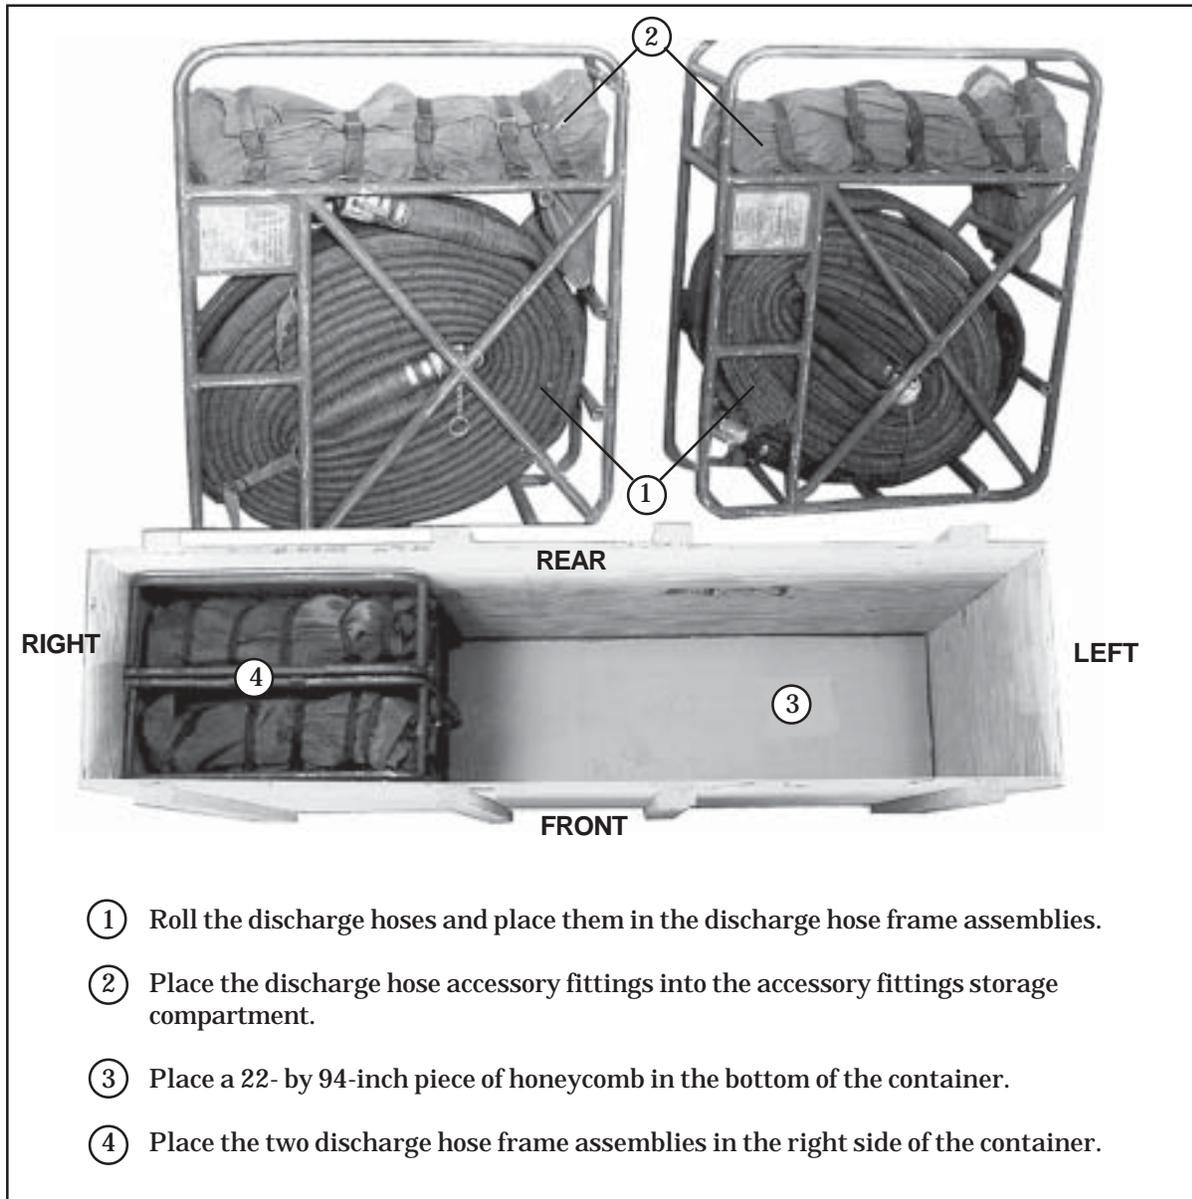

Figure 1-7. Discharge Hose Frame Assemblies Prepared and Stowed
- a. **PREPARING DISCHARGE HOSE FRAME ASSEMBLY.** Prepare the discharge hose frame assemblies, and stow them in the container as shown in Figure 1-7.